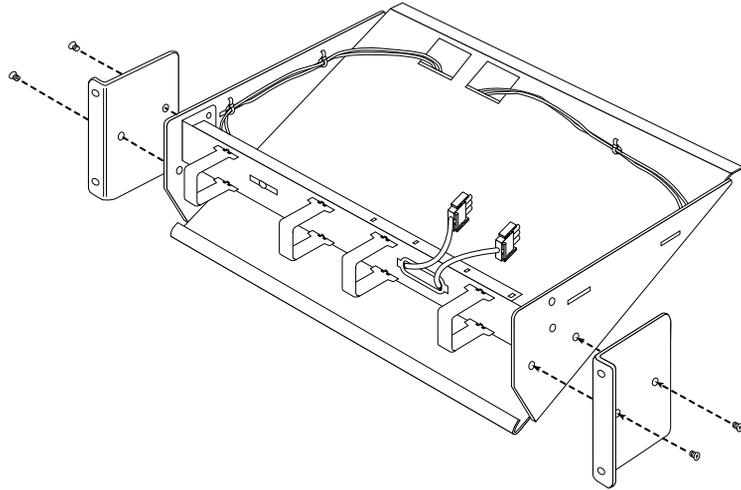

Figure 5. Air Deflector with Front-Position-Mounted Brackets
- Mounting angle brackets are placed in a position (front edge of the air deflector sidewall), as shipped from the factory, with rack-attaching flanges facing the front for flush-front mounting in an equipment rack. See Figure 5 for the positioning of the brackets. This figure illustrates a